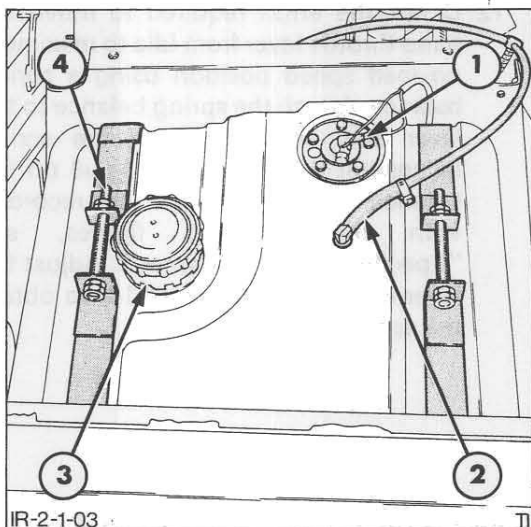

Figure 17
7. Disconnect the fuel injector leak-off line at the fuel tank, Figure 17, and plug the exposed openings to prevent contamination.
9. Withdraw the retaining bolts from the two retaining straps, Figure 17, then carefully withdraw the fuel tank.
- Tighten the injector leak-off line elbow to the specified torque, see "Specifications" – Chapter 8, and then continue to tighten until the elbow is in the correct radial position, Figure 17.